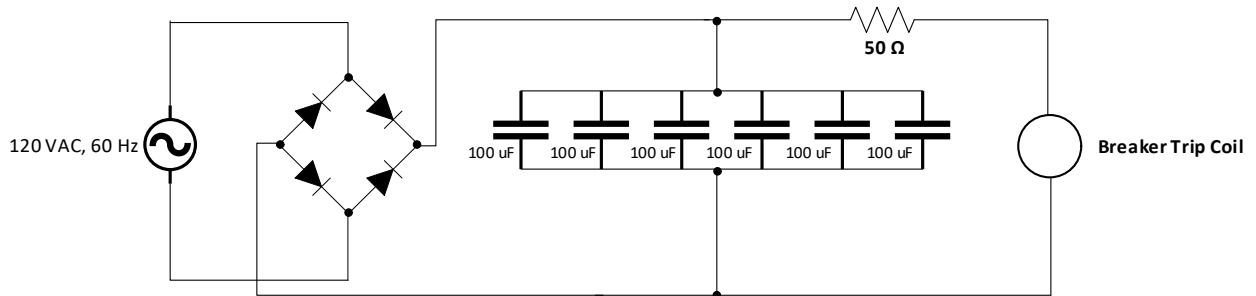

Figure 3.14 Schematic of bridge rectifier circuit for the industrial circuit breaker
In order to provide the appropriate DC voltage to operate the tripping mechanism of the industrial breaker (I) installed at the secondary of the variable autotransformer, a bridge rectifier circuit has been used. The schematic of the bridge rectifier circuit is presented in Figure 3.14.